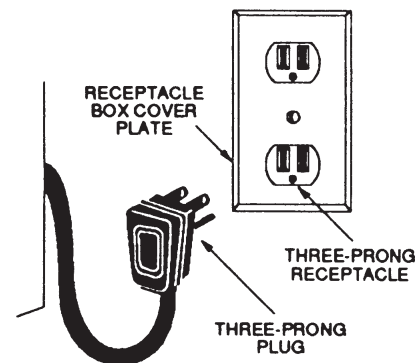

Figure 10: Recommended Grounding Method for 120V Models
Improper grounding or reverse polarization will cause malfunction (such as continuous sparking of the burner igniters). This can damage the appliance and can create a condition of shock hazard. If the circuit is not correctly grounded and polarized, it is the responsibility and obligation of the installer and user to have the existing receptacle changed to a properly grounded and polarized receptacle. This must be accomplished in accordance with all applicable local codes and ordinances by a qualified electrician. In the absence of local codes and ordinances, the receptacle replacement shall be in accordance with the National Electric Code. (See Figure 10.)
- Observe all governing codes and ordinances when grounding. In the absence of these codes or ordinances observe National Electrical Code ANSI/NFPA No. 70 current issue. See Figure 10 for recommended grounding method.
IT MUST BE PLUGGED INTO A MATING, GROUNDING TYPE RECEPTACLE THAT IS CONNECTED TO A CORRECTLY POLARIZED 120 VOLT CIRCUIT (240 VOLT CIRCUIT FOR MODELS WITH 24" ELECTRIC GRIDDLE. (See Figure 10).